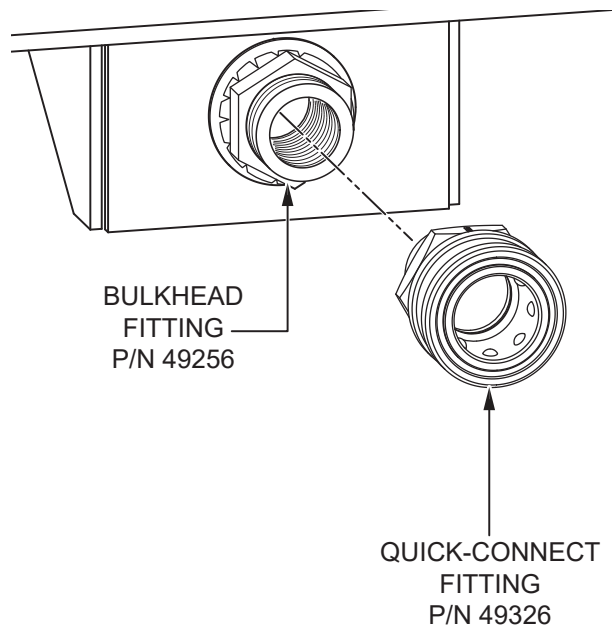

Figure 16. Quick-Connect Fitting Installation
3. Insert the quick-connect fitting (P/N 49326) into the bulkhead fitting (P/N 49256) and tighten securely. See Figure 16.